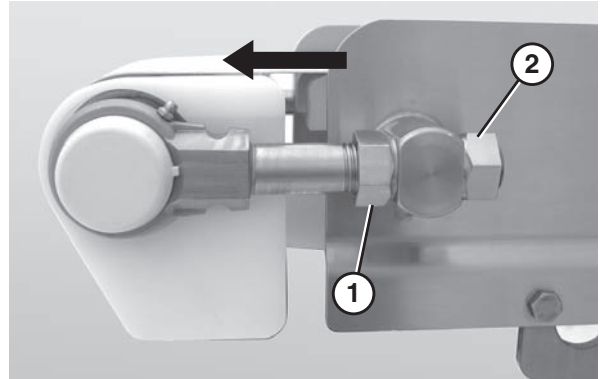

Figure 52
2. Turn the front nuts closest to the tail (Figure 52, item 1) clockwise in order to increase tension on the belt.
3. Tighten the back nuts (Figure 52, item 2) to secure the tail.
1. Loosen the back nut (**Figure 52, item 2**) on the idler tail shaft that needs to be adjusted.
2. Tighten or loosen the front nut (**Figure 52, item 1**) on the idler tail shaft adjust the belt tracking.